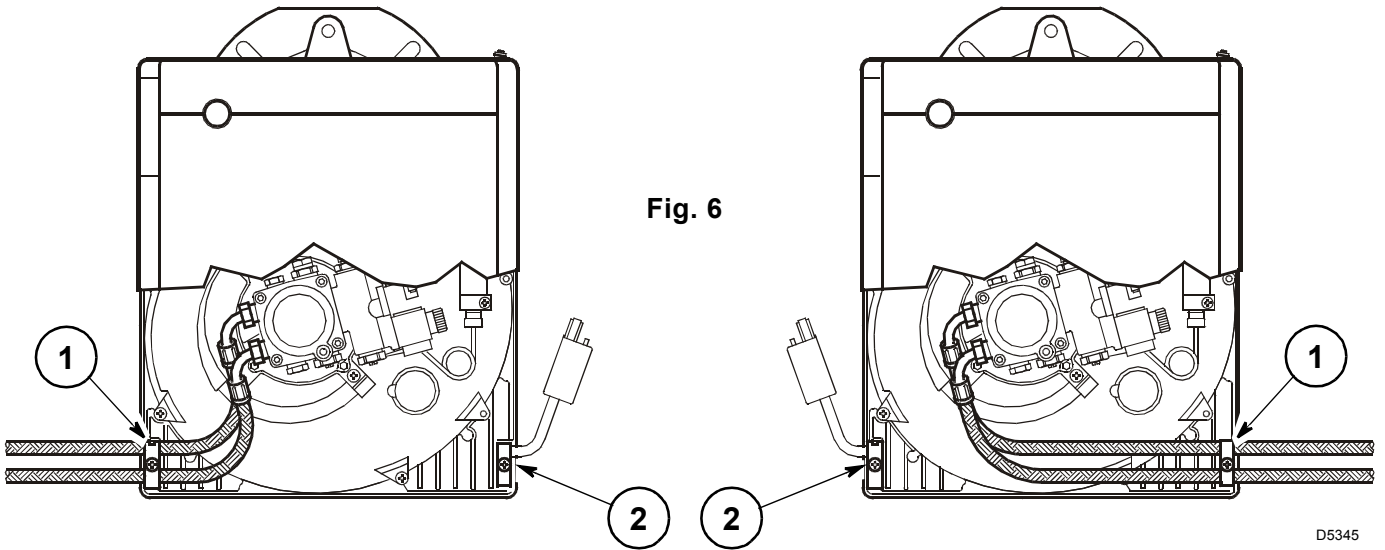

Fig. 6
Depending on the oil supply pipes position (to the right or to the left hand side of the burner) the fixing plate (1) and cable clamp (2) should be reversed, (see fig. 6).